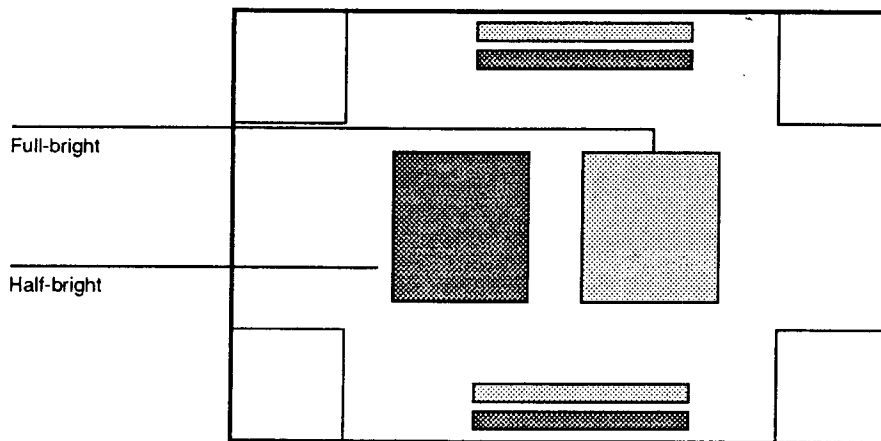

Figure 2-3. CRT Diagnostic Test Pattern
- c. Observe that a CRT test pattern similar to *Figure 2-3* is displayed.